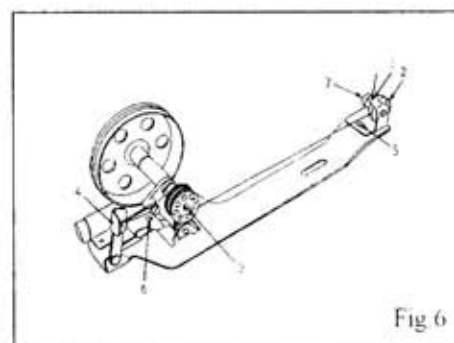

Fig.6
5. WINDING (Fig.6)
6. WINDING ADJUSTMENT (Fig.6)
2) Adjusting the lift of alternating presser feet: If the height of the lifting presser foot changes, the momentums of the lifting and vibrating presser foot vary, thus the height of the vibrating presser foot must be adjusted. To adjust this, lower the presser bar lifter, holding the vibrating presser foot B (Fig.6) and loosen the hexagon screw 3 and move the presser foot up or down as may be required. After setting the position, tighten the screw.